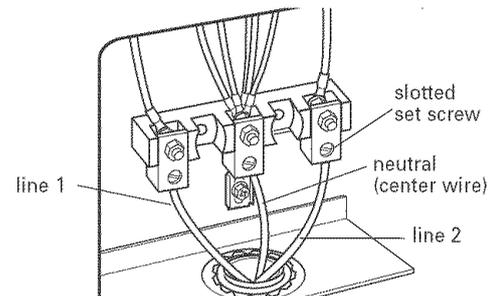

Figure 3
8. Connect the neutral wire (center wire) to the center terminal screw on the terminal block. See Figure 3.
9. Connect the other two wires (lines 1 and 2) to outer terminal screws on the terminal block. See Figure 3.
10. Loosen (do not remove) the 3 slotted set screws. Insert the neutral (white) wire into the hole at the bottom of the center position lug (attached to center terminal screw of terminal block). See Figure 3.
12. Securely tighten the set screws. For 8 gauge copper wire, tighten to 25 in/lbs of torque, and for 6 gauge aluminum wire, tighten to 35 in/lbs of torque to make a proper electrical connection. See Figure 3.